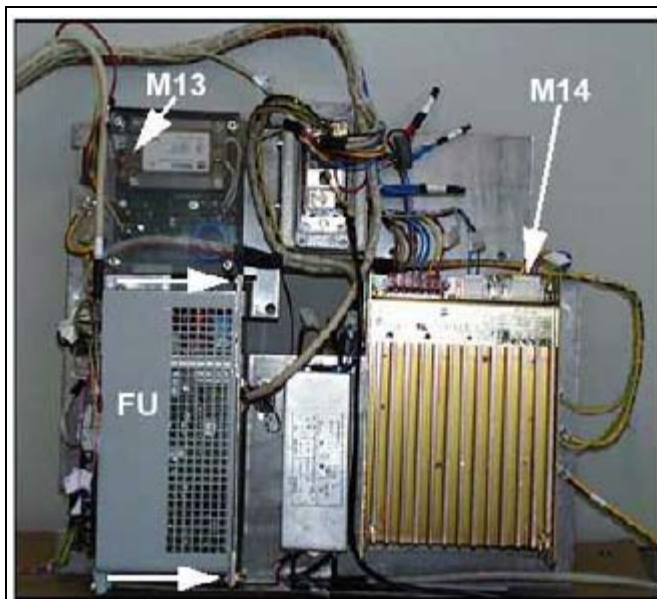

Fig. 18: Frequency converter
5. Replace the frequency converter after removing the Allen screws (refer to arrows (Fig. 18 / p. 55)).